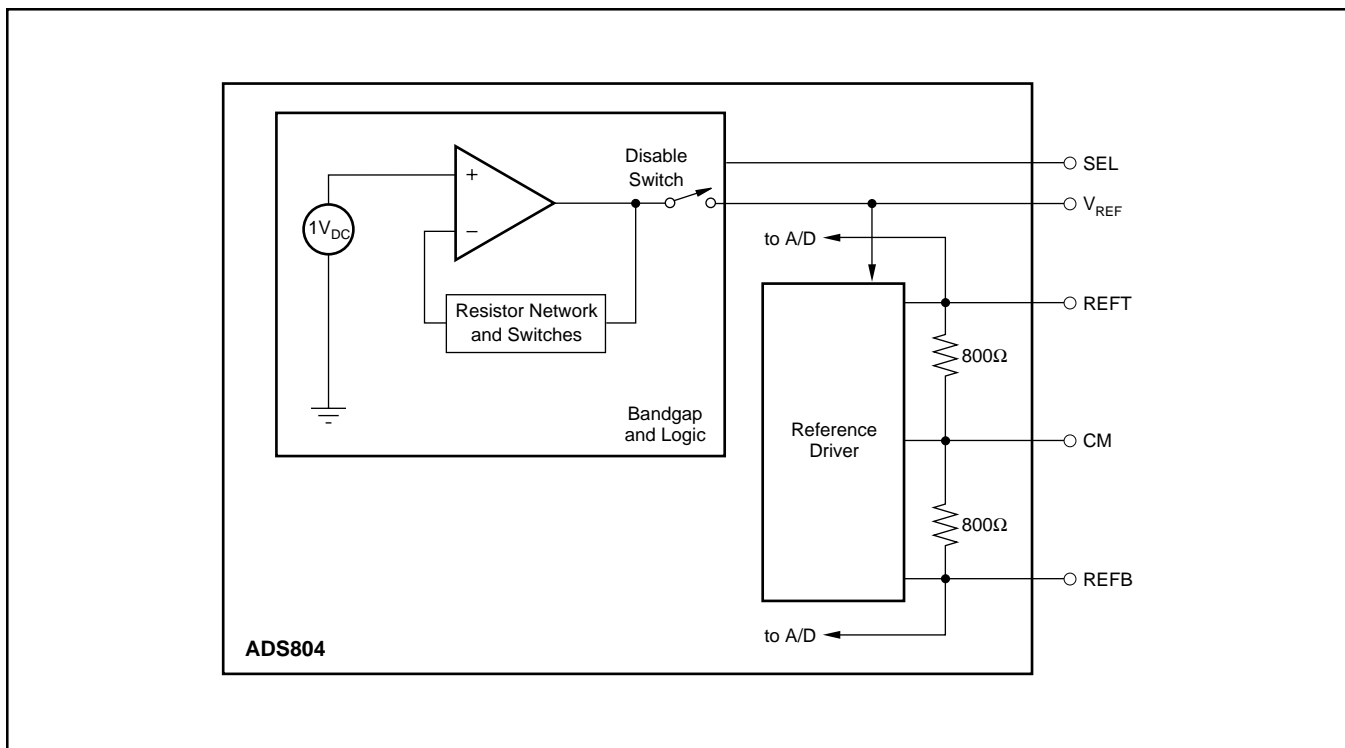

FIGURE 4. Equivalent Reference Circuit.
A simple model of the internal reference circuit is shown in Figure 4. The internal blocks are a 1V-bandgap voltage reference, buffer, the resistive reference ladder and the drivers for the top and bottom reference which supply the necessary current to the internal nodes. As shown, the output of the buffer appears at the V_{REF} pin. The full-scale input span of the ADS804 is determined by the voltage at V_{REF} , according to the equation (1):